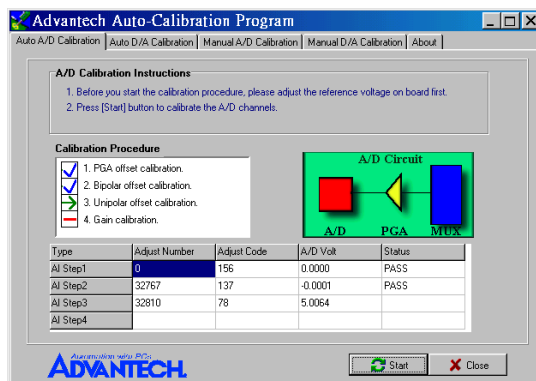

Figure 5-9: A/D Calibration Procedure 3
Step 7: The third A/D calibration procedure is enabled (Fig. 5-9)